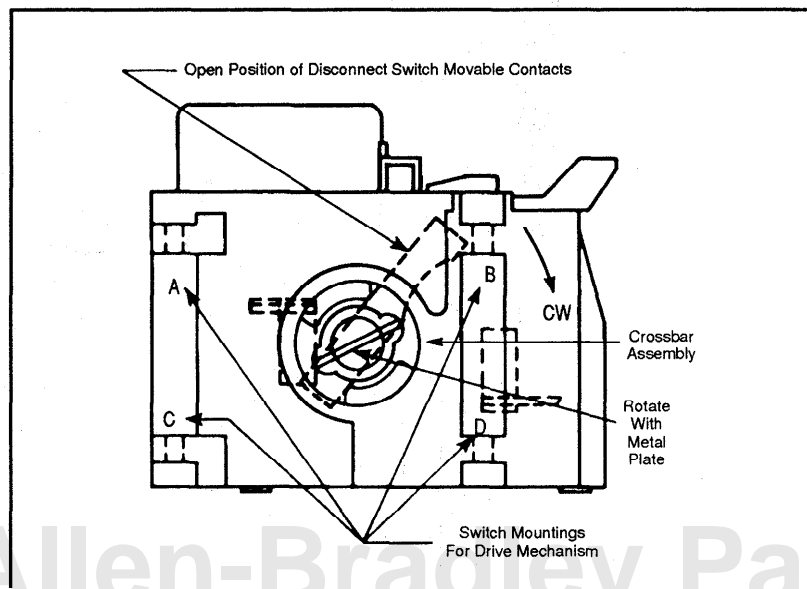

Figure 9
2. Insert the rectangular metal plate provided into the crossbar end slot on the right hand side. See Figure 9.
6. Insert the drive mechanism ears between switch mountings A, B, C, D as shown in Figure 9. The drive plate assembly should engage the openings in the crossbar assembly.